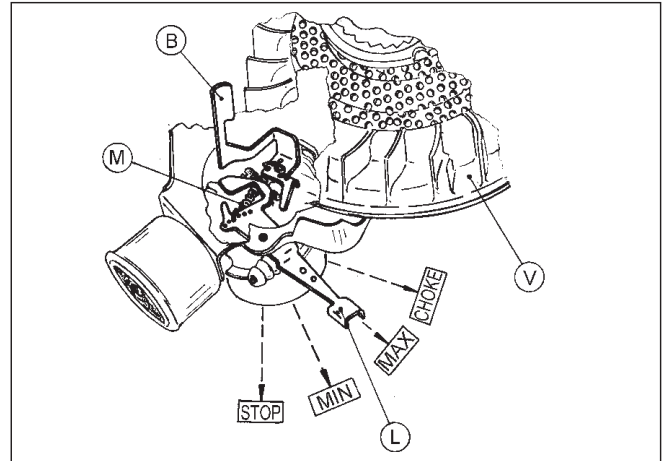
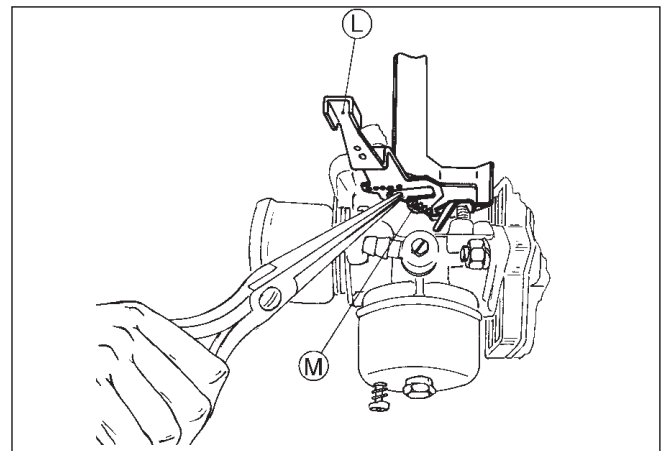

Fig. 1
Fig. 2
The above engines are fitted with a pneumatic governor of the type shown in Fig 1. Air vane «B» attached to the throttle spindle draws air from the flywheel «V». This vane so under the air pressure from the flywheel tends to close the throttle until the spring «M» fastened between the control lever «L» and the vane opposes this movement. The balance between the two forces giving the desired throttle opening.
a) Variable control type (Fig. 2)
The control lever «L» secured to the bracket (Fig 1) may be moved between the choke position and the stop contact position. Between the max position (lever against but not operating the choke) and the min position (lever near but not touching stop contact), the speed range is obtained. To increase or decrease the max speed, the spring «M» is moved to another hole in the lever «L» (Fig 2) by moving the spring to a hole further away from throttle the speed is increased and vice versa.